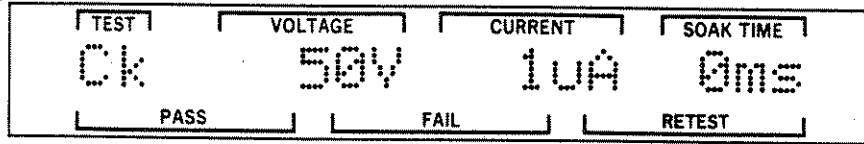

Figure 3-30. Check Test Conditions Screen
STEP 18. Exit the Stress test conditions by pressing the DOWN pushbutton. Notice that the Check test conditions are displayed. Figure 3-30 is an example of this screen.